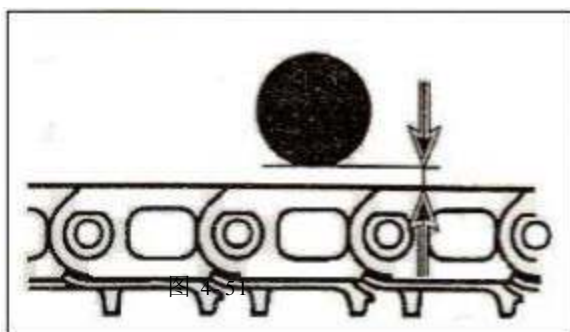

图 4-51
3. If the gap between the intermediate roller bearing surface and the upper plane of the track chain link is measured, it should be 20~35mm (see Figure 4-51). The rubber track (Figure 4-51) has a gap of 15-20mm